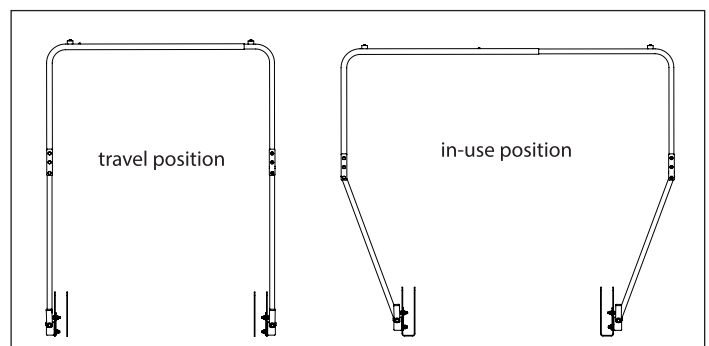

FIGURE 8
11. locate the female extension tube (15542) and the male extension tube (15542), you may have to push the snap button down to get the male tube started. With the male and female extension tubes assembled, slide the assembly into the "Travel Position" for the next step. **SEE FIGURE 8**
Note: Assembly will be easier in the upcoming steps with the extension assembly (15542/15540) in the "Travel Position". Refer to Figure 8 to distinguish the "Travel Position" and the "In-Use Position".